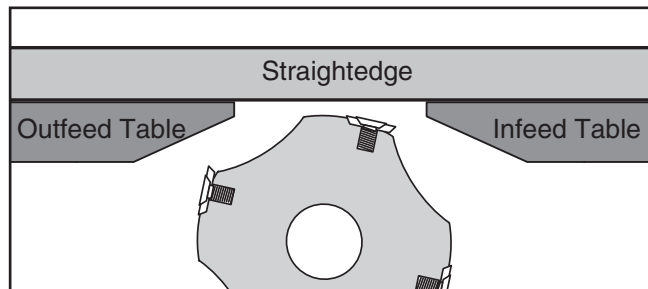

Figure 63. Straightedge placed on jointer tables.
2. Place straightedge halfway across infeed table and halfway over outfeed table, and adjust infeed table even with outfeed table, as shown in **Figure 63**.